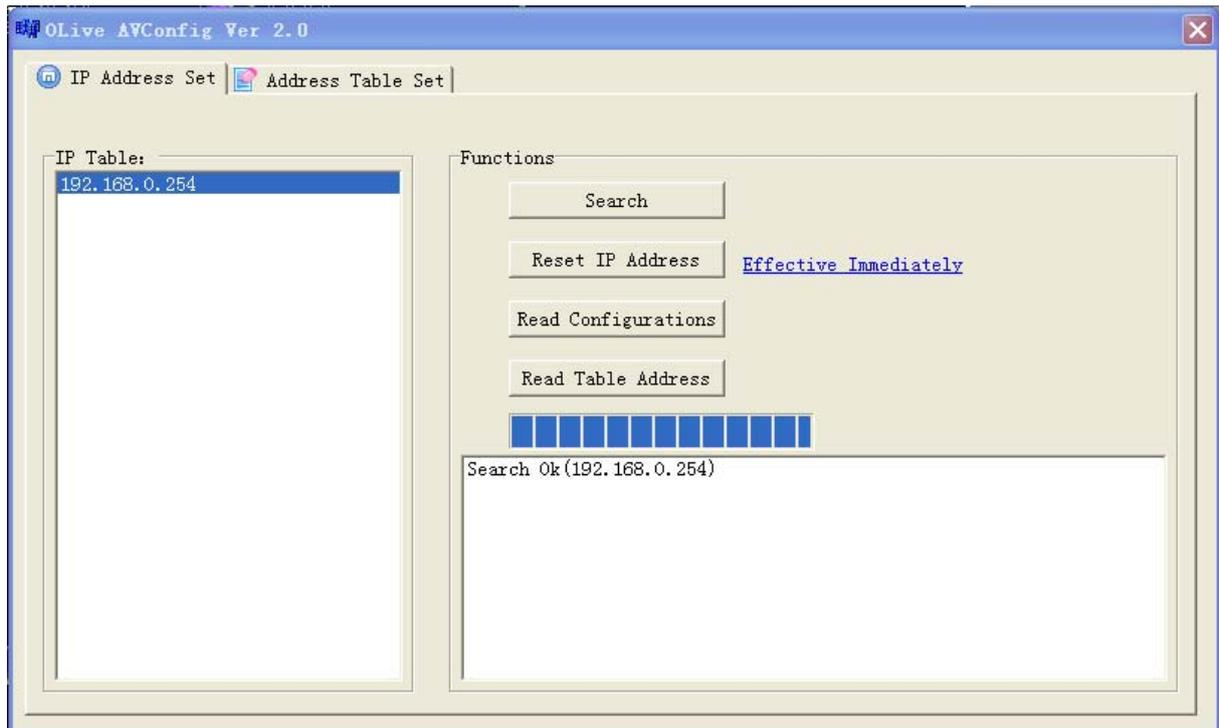

Figure 15
- ◆ [Search]: Search for all the online equipments in the network as Figure 15 shows(Cautions refer to Note1 and Note2).